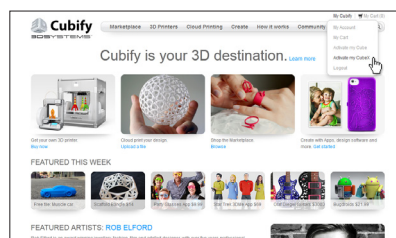

Fig. 14
- In **My Cubify** drop down menu, Click on **Activate my CubeX**. (Fig. 14)